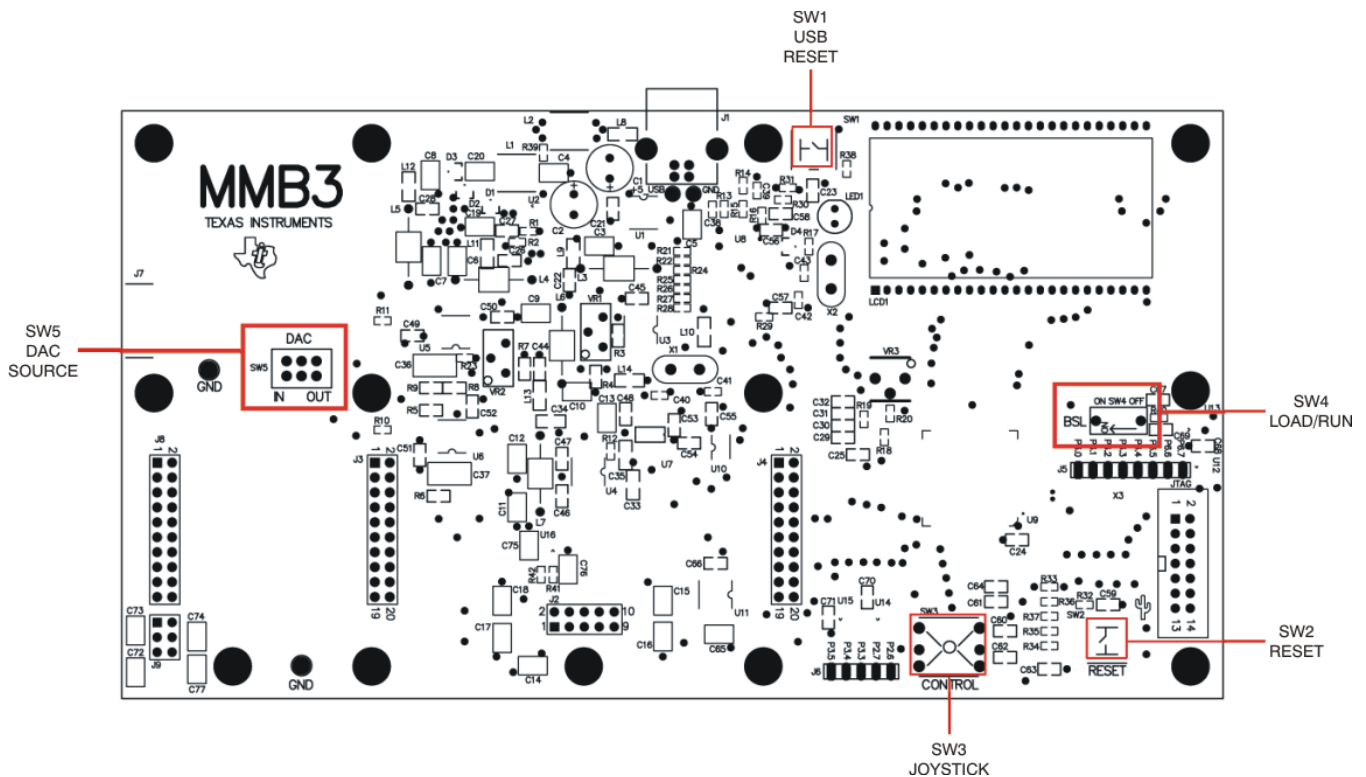

Figure 6. MMB3 Switch Locations
- Step 2. Set the switches on the MMB3 as described below, as shown in Figure 6.